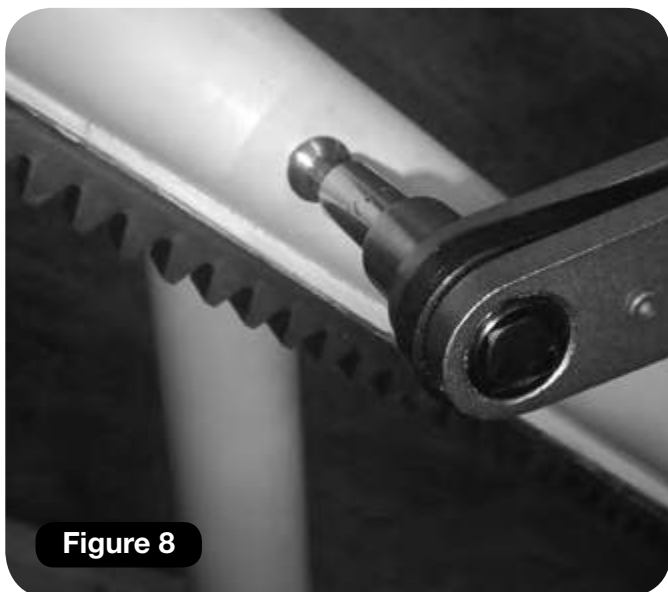

Figure 8
- 3 Attach the top rail on to the two stanchions. Use stanchion/rail bolts supplied (**Figure 8**).